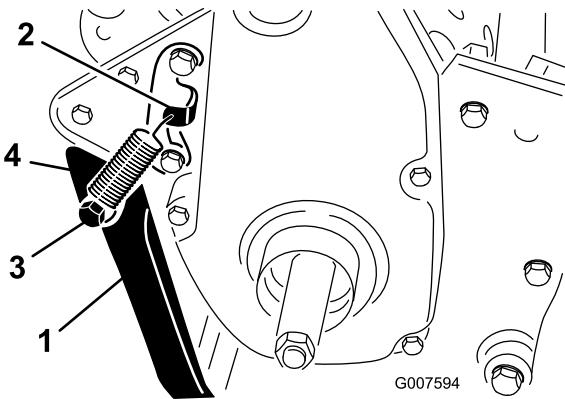

Figure 6
2. Hook the spring into the hole in the spring bracket and onto the spring stud while aligning the kickstand with the mounting holes in the rear frame (Figure 6).
3. Mount the kickstand to each side of the frame with a bolt, spacer, flat washer, and locknut (Figure 6).